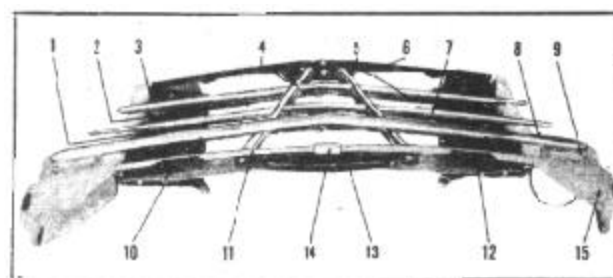

FIGURE 96
1. Remove the fender tie panel and hood lock lower support panel assembly (6), Figure 96.
1. On the Super and Pacemaker series remove two nuts and washers each side under fender extension, Figure 96. These moulding retainer screws attach right and left side of moulding to fender front extension (15).
**NOTE: The upper moulding (5), Figure 96, and the intermediate moulding (7) as well as the baffles (1), (2) and (8), can be easily removed after the fender tie panel has been removed. See "Fender Tie Panel Removal", Page 74.**